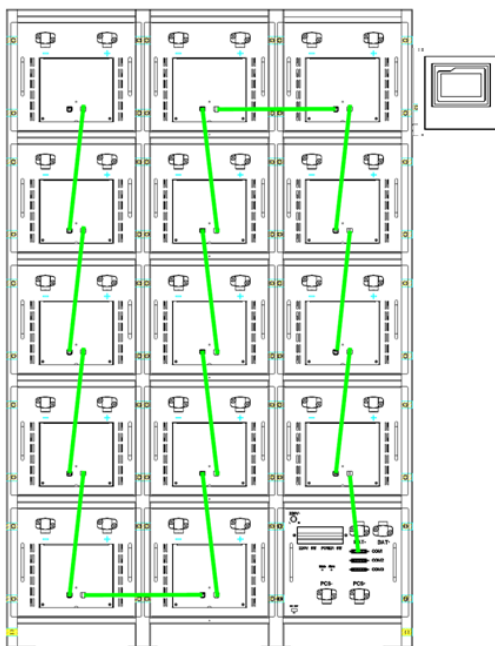

Figure 6-6 Battery cluster communication cable wiring diagram
2) .According to the wiring position shown in Figure 6-6, each cluster is connected to the battery module communication line in the S-shape from the lower right corner.